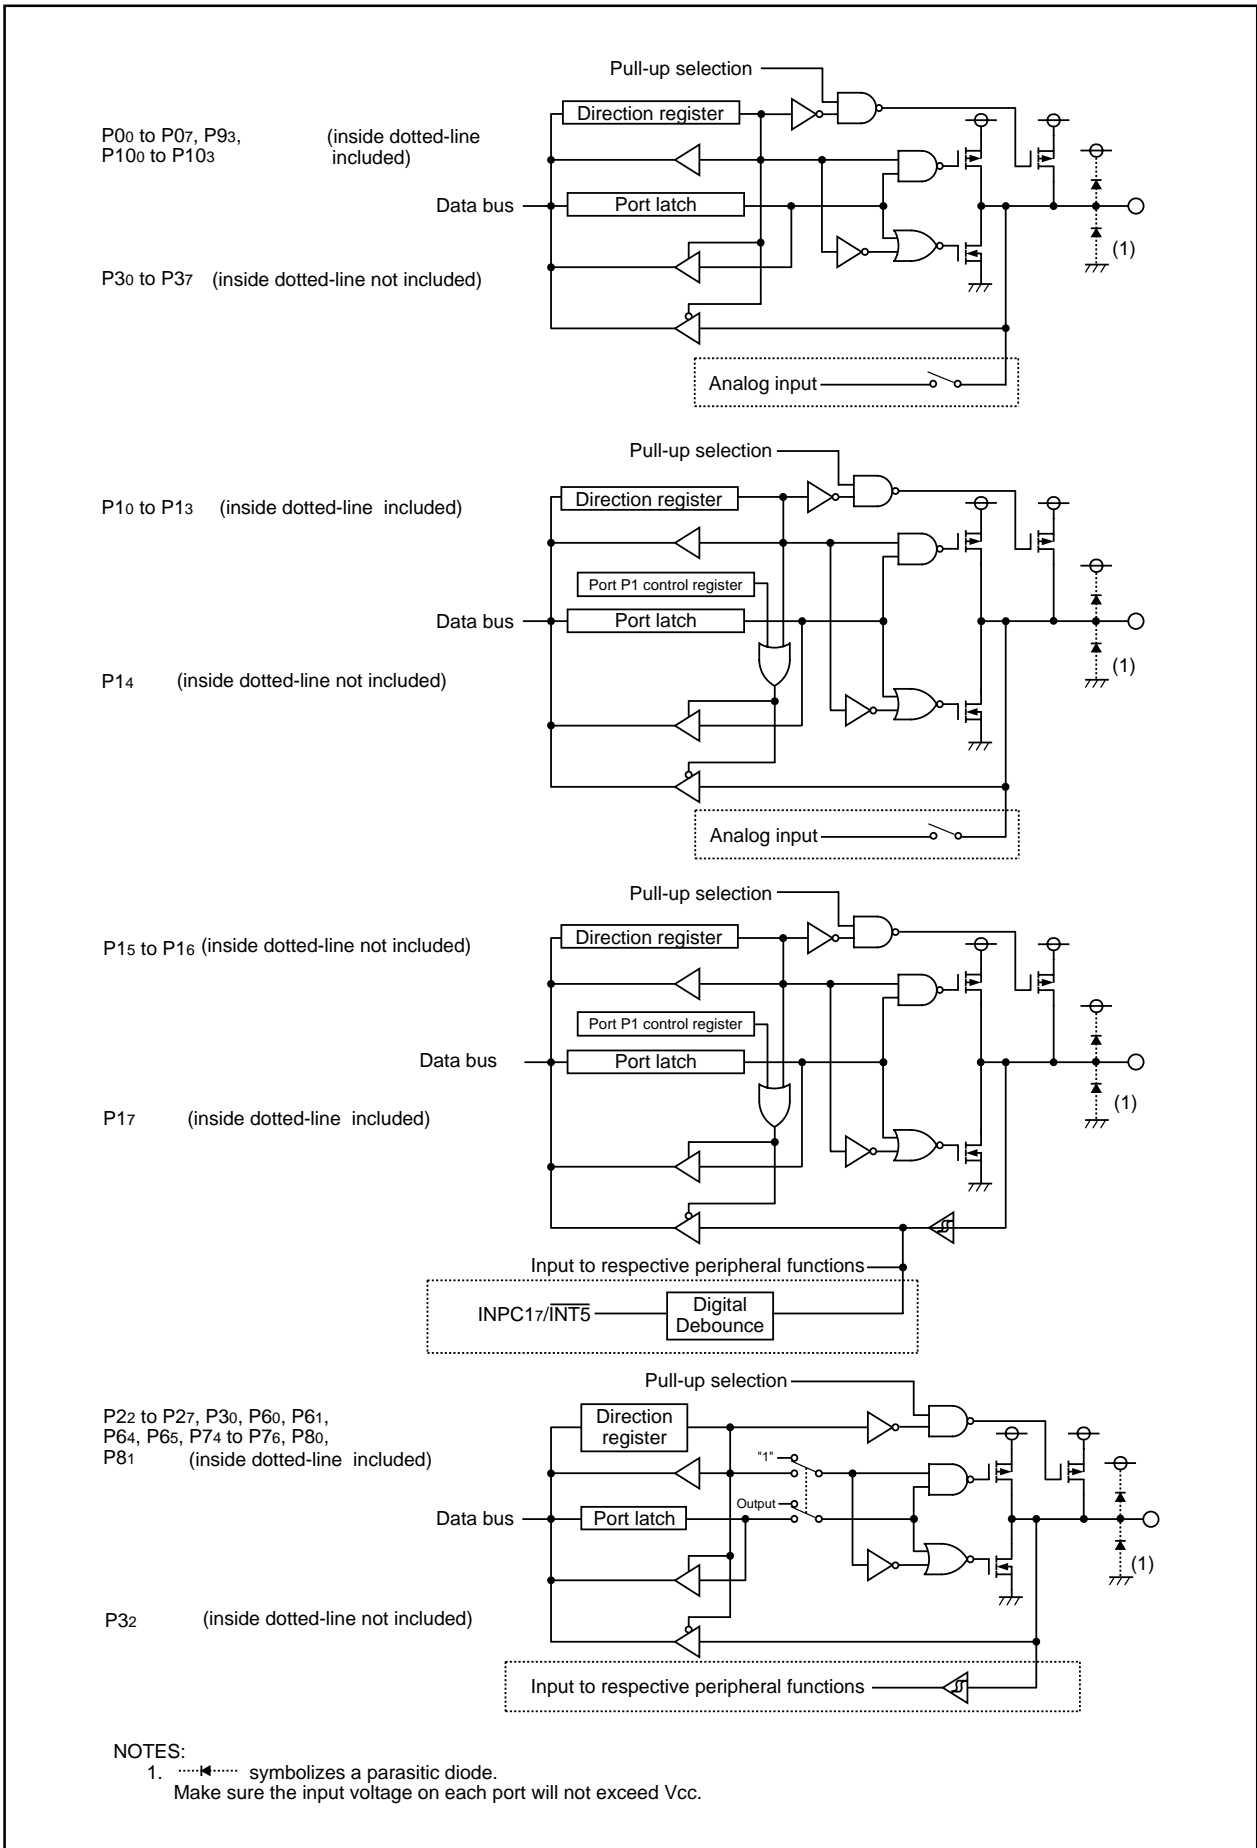

Figure 17.1 I/O Ports (1)
**Figures 17.1 to 17.4** show the I/O ports. **Figure 17.5** shows the I/O pins.